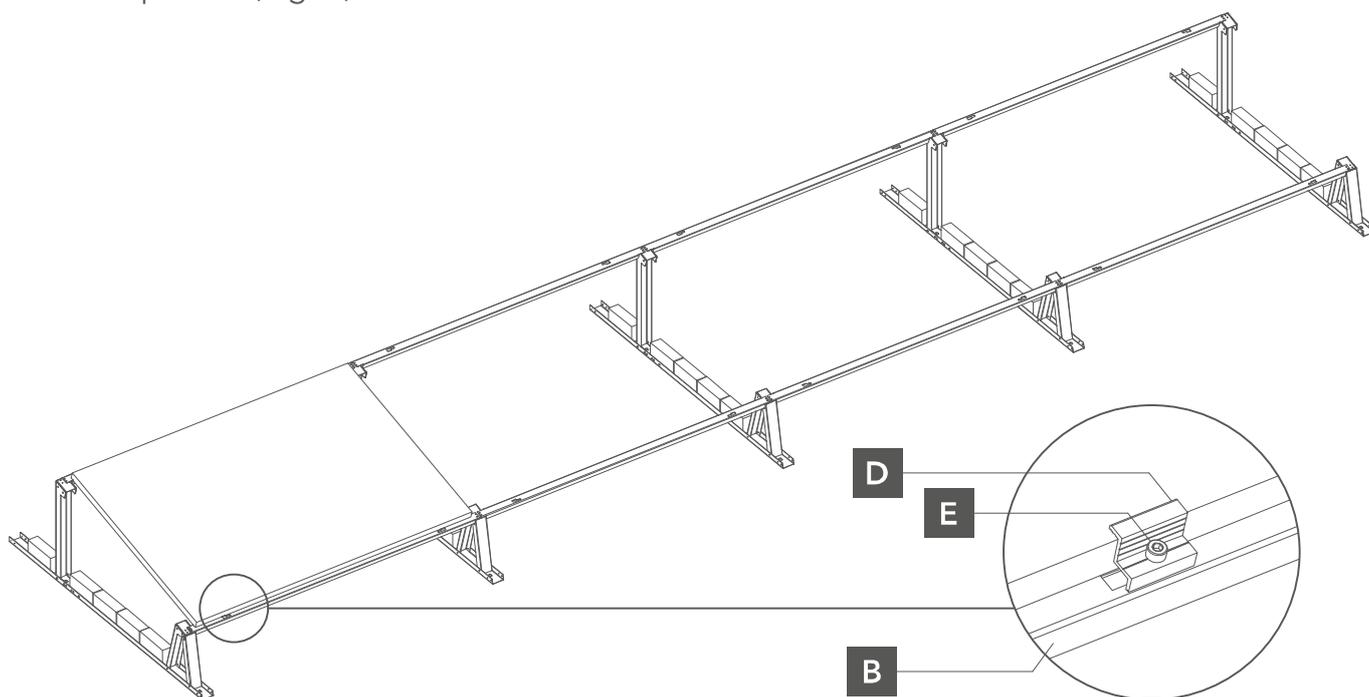

Fig. 4. attachment of the modules to the roof battens
- 3** On the roof battens we place the first, outermost photovoltaic module and hold it in order to mount the end clamps. The screw terminals are equipped with M8 Allen screws and nuts. This procedure must be repeated for the assembly of all modules in the row be repeated (Fig. 4).